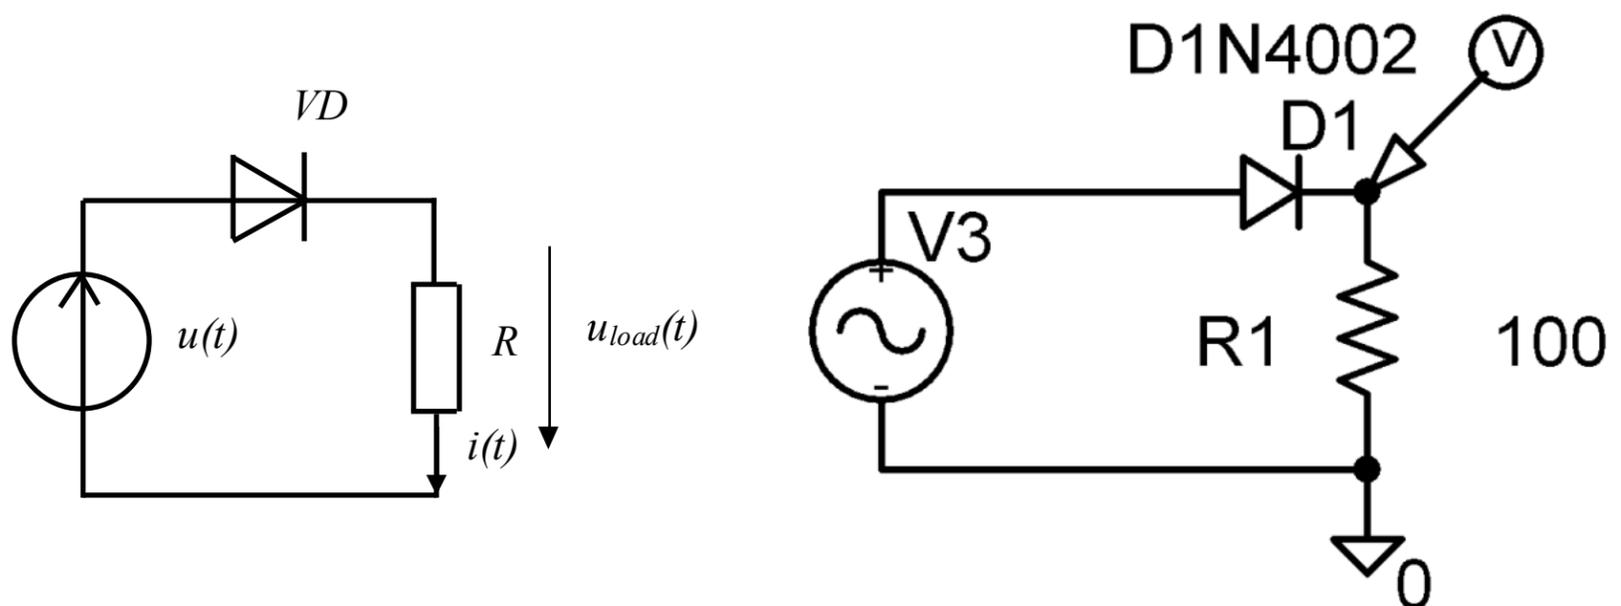

Figure 2. Scheme for virtual experiment 3
VE 3.1. Draw a scheme for half-wave circuit as shown on fig. 2.
Use following parts: “**VSIN**” as an alternating current (AC) generator; “**D1N4002**” as a model of power silicon diode 1N4002; “**r**” as a load resistor; “**agnd**” as a ground (zero potential) sign; **voltage and current probes** as shown on fig 2.